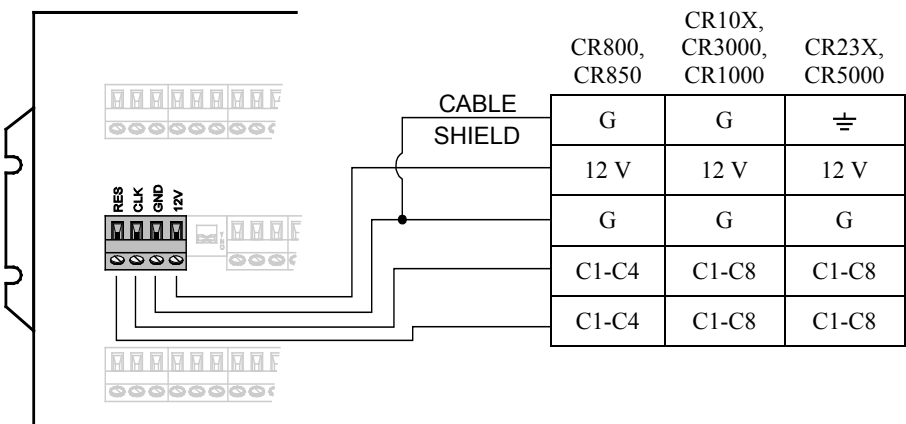

FIGURE 4-6. Multiplexer to Datalogger Power/Control Hookup (multiplexer controlled by datalogger)
4. Use a CABLE4CBL-L cable to connect the multiplexers to the datalogger (see FIGURE 4-6).
A CABLE4CBL-L cable is used to connect the multiplexer to the datalogger (see FIGURE 4-6).